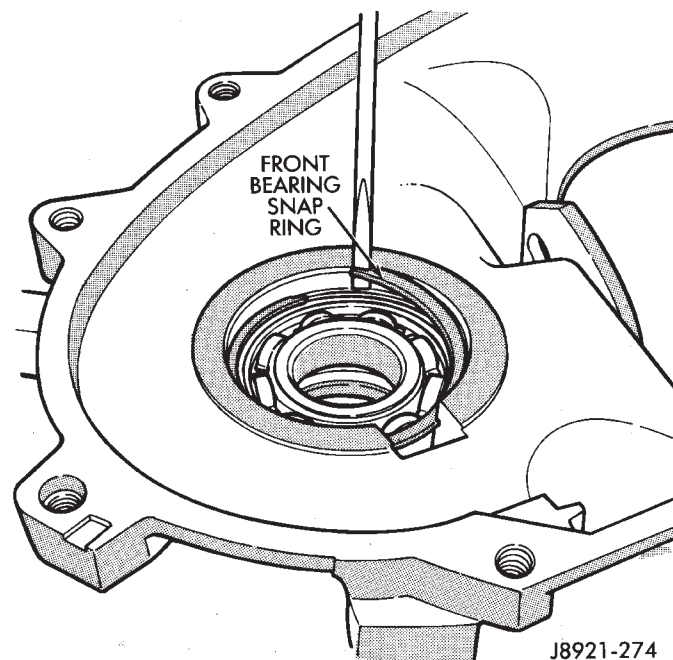

Fig. 37 Removing/Installing Front Output Shaft
(2) Remove front output shaft, front bearing snap ring (Fig. 37).
(4) Install front bearing snap ring (Fig. 37).